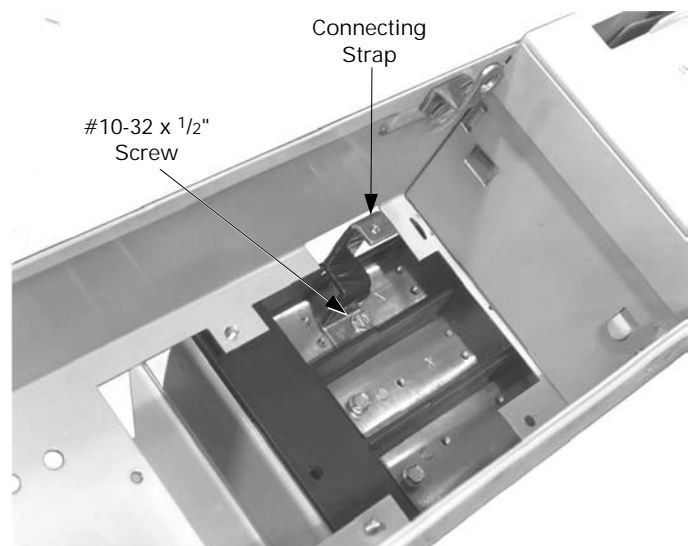

Figure 3. Installing the connecting straps.
3. **Install the straps.** Install the connecting straps with the 10-32 x 1/2" screws provided, as shown in Figure 3. Tighten the screws to 27–32 in-lb.